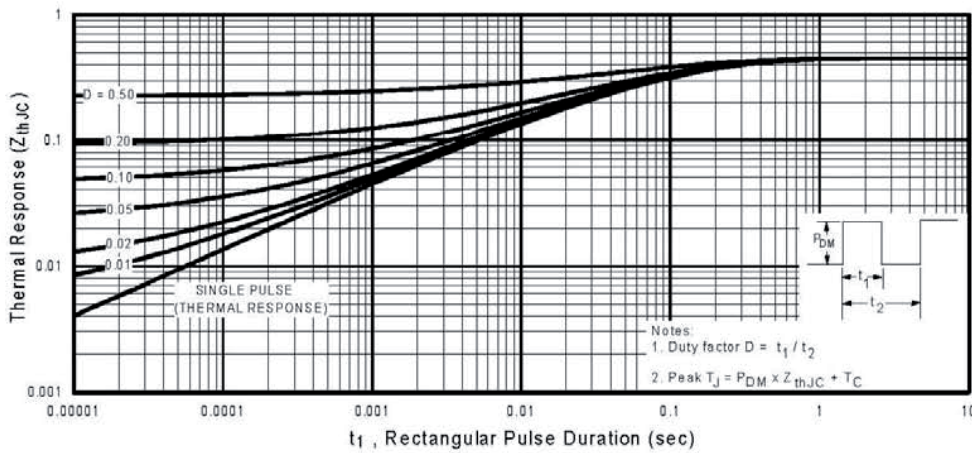

Fig. 12 - Maximum Effective Transient Thermal Impedance, Junction-to-Case
- $V_{DD} = 25$ V, starting $T_J = 25^\circ\text{C}$, $L = 7.2$ mH, $R_g = 25 \Omega$, $I_{AS} = 16$ A (see fig. 12)